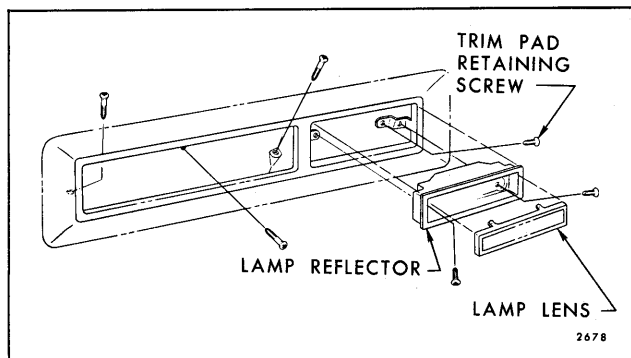

Fig. 14-12—Door Warning Lamp - Cadillac Styles
7. On Cadillac styles, remove door warning lamp as indicated in Figure 14-12 to enable removing trim pad retaining screw located behind lamp.